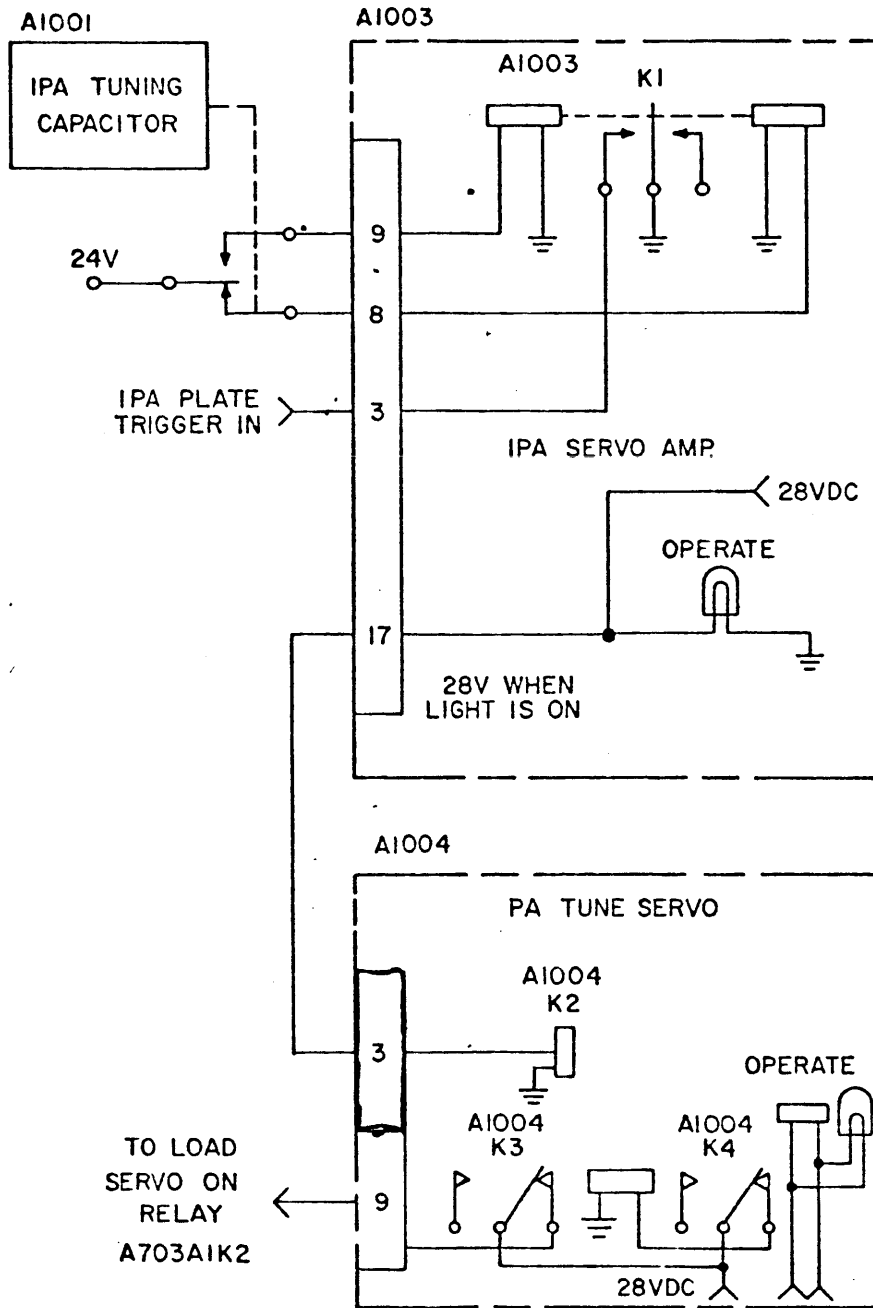

Figure 4-5. IPA Plate Trigger Shorting and Input to PA Tune Servo
g. IPA OPERATE. (See figures 4-5 and 7-2) As resonance is approached, a sample of the r-f voltage at the plate of the IPA tube V1401 is rectified to a positive d-c voltage by the IPA sense assembly diode A1008CR3 and fed to the driver r-f trigger potentiometer A1007R12. The potentiometer is adjusted to provide approximately 0.5 vdc to pin 3 of the IPA servo amplifier A1003, which stops the amplifier from searching and places it into the servo mode.